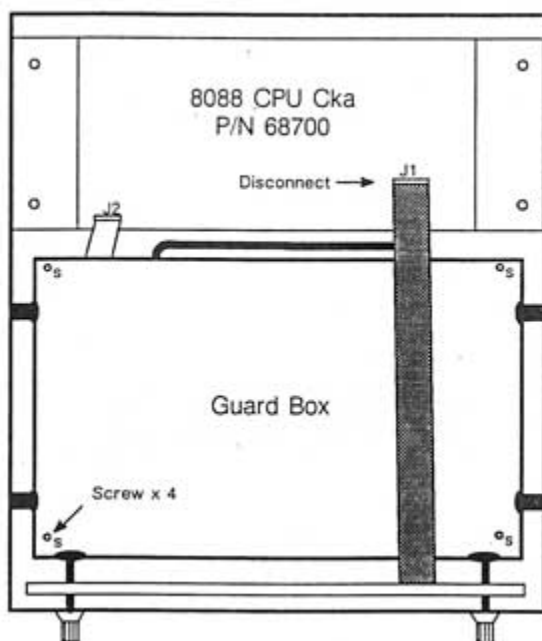

Figure 8-17. Accessing the Analog Cka
4. Remove the Guard Box cover by disconnecting J1 on the 8088 CPU Cka P/N 68700 and the four screws at each corner of the cover. Refer to Figure 8-17.